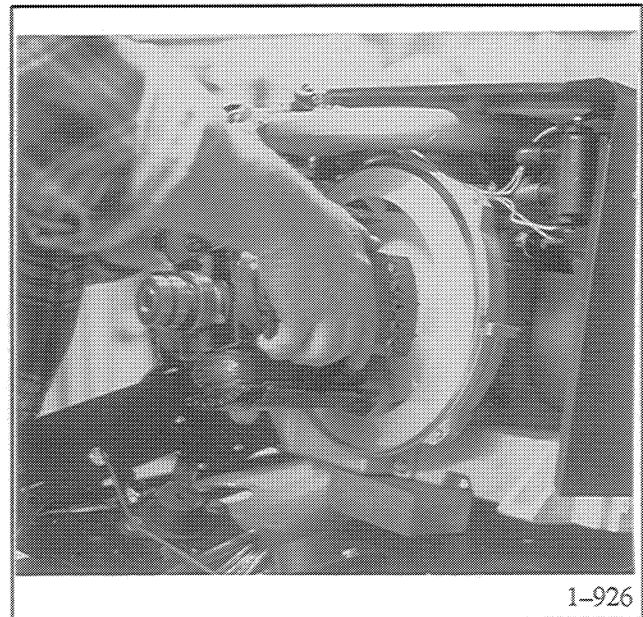

Figure 8-27. Removing Rotor
32. When rotor has been loosened, remove thru-bolt and then slide rotor from tapered crankshaft. See Figure 8-27.
2. Place rotor onto tapered shaft of crankshaft and hand-tighten thru-bolt. Attach a strap wrench to rotor and torque thru-bolt to 40-55 ft. lbs. (54-75 Nm). See Figure 8-27. Do not allow flywheel to rotate when assembling rotor to crankshaft.